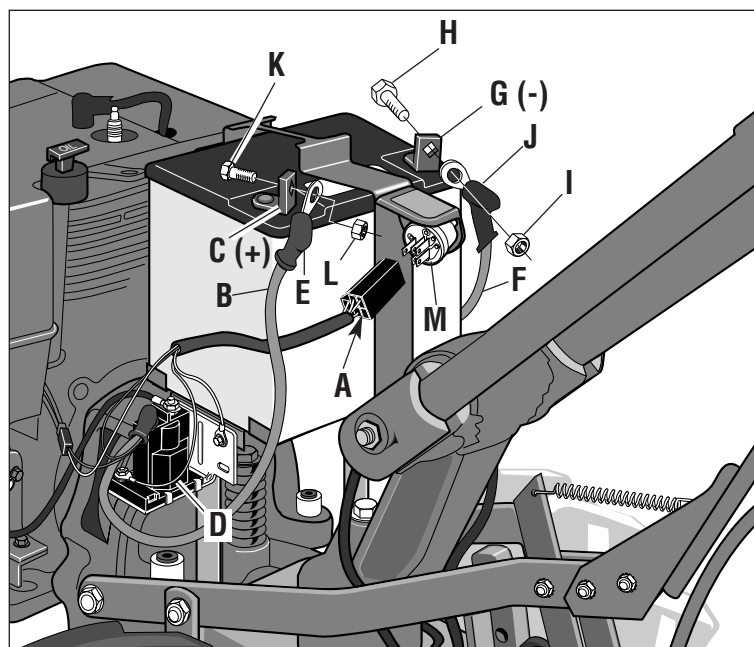

Figure 2-18: Battery cable assembly.
1. Use a 5/8" long screw (K, Figure 2-18) and 1/4-20 hex nut (L) to connect the positive (+) battery cable (B) to the positive (marked +) battery post (C). Make sure that this is the cable on the left side, with one end attached to the solenoid (D).
2. Slide the black rubber boot (E) completely over the battery post and cable connector.
3. Use a 5/8" long screw and 1/4-20 hex nut to connect the negative (-) battery cable (F) to the negative (marked -) battery post (G) and secure with screw (H) and nut (I).
4. Slide the black rubber boot (J) completely over the battery post and cable connector.
1. Before installing the battery and its hold-down clamp, insert the plastic wire harness receptacle (A, Figure 2-18) into the prongs of the keyswitch (M) located on the hold-down clamp.